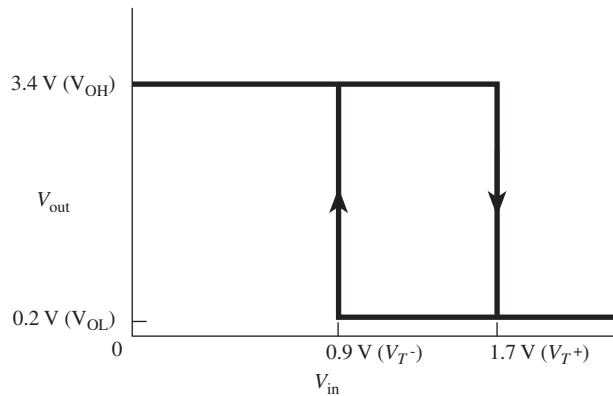
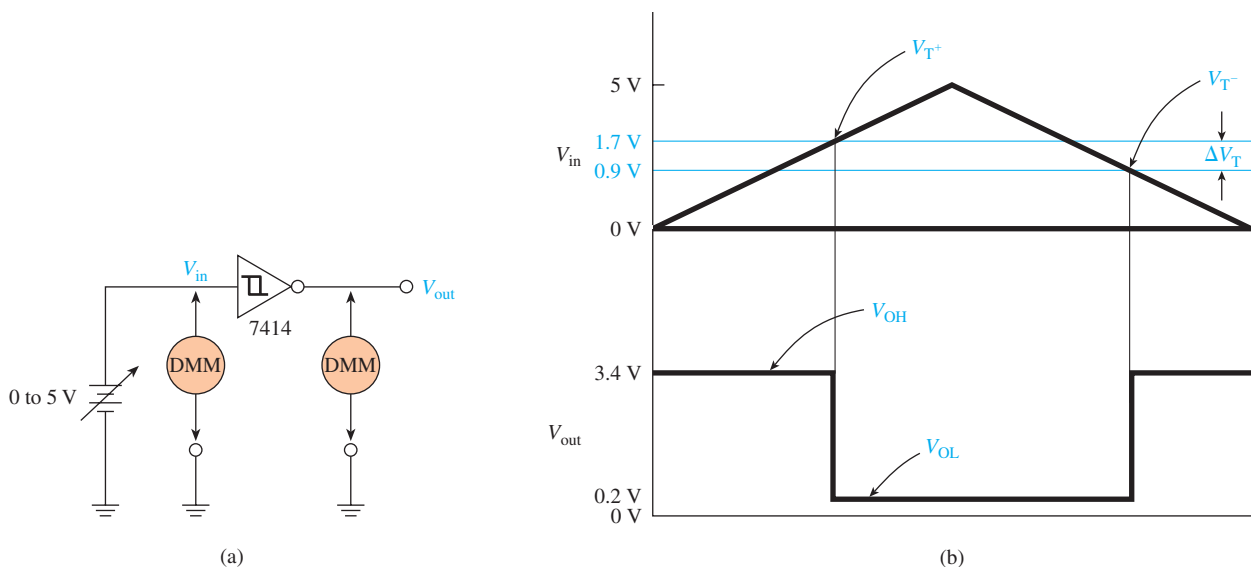

Figure 28 Transfer function for a 7414 Schmitt trigger inverter.
Figure 29 Circuit used to experimentally produce a Schmitt trigger transfer function; (a) circuit diagram, (b) V_{in} , V_{out} versus time waveforms.
How would the transfer function of a noninverting Schmitt differ from Figure 28?
Figure 28 shows the transfer function for the 7414. The transfer function graph is produced experimentally by using a variable voltage source at the input to
the Schmitt and a DMM (digital multimeter) at V_{in} and V_{out} , as shown in Figure 29(a) and (b).
As the V_{in} of Figure 29(a) is increased from 0 V up toward 5 V, V_{out} will start out at approximately 3.4 V (1) and switch to 0.2 V (0) when V_{in} exceeds the positive-going **threshold** (≈ 1.7 V) as shown in Figure 29(b). The output transition from HIGH to LOW is also indicated in Figure 28 by the downward arrow. As V_{in} is increased up to 5 V, V_{out} remains at 0.2 V (0).
As the input voltage is then decreased down toward 0 V, V_{out} will remain LOW until the negative-going threshold is passed (≈ 0.9 V). At that point, the output will switch up to 3.4 V (1), as indicated by the upward arrow in Figure 28. As V_{in} continues to 0 V, V_{out} remains HIGH at 3.4 V. The hysteresis in this case is $1.7\text{ V} - 0.9\text{ V} = 0.8\text{ V}$.